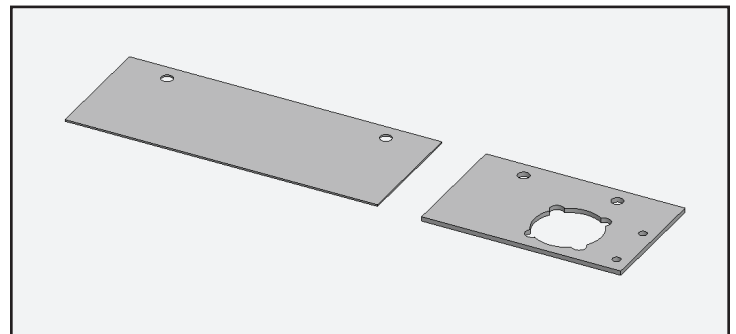

Fig. 10. Cover plate and torque master plate. Located in the interior packaging with the leveling tools.
1. Locate the replacement torque master plate and cover plate in the interior packaging with the leveling tools. See fig. 10. Set aside.